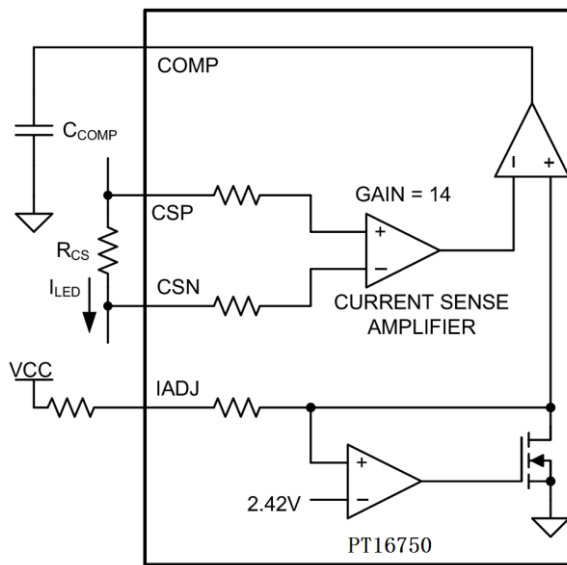
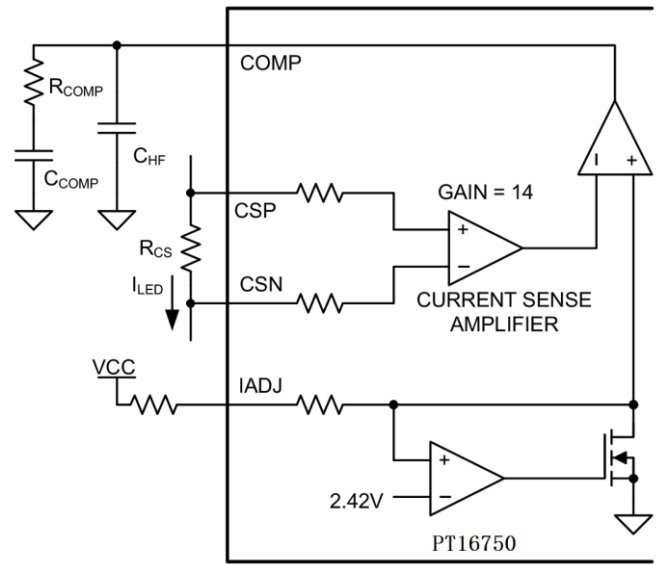

Figure 15. Integral Compensation
Figure 16. Proportional-Integral Compensation
The feedback transfer function includes the current sense resistor and the loop compensation of the transconductance amplifier. A compensation network at the output of the error amplifier is used to configure loop gain and phase characteristics. A simple capacitor, C_{COMP} , from COMP to GND (as shown in Figure 15) provides integral compensation and creates a pole at the origin. Alternatively, a network of R_{COMP} , C_{COMP} , and C_{HF} , shown in Figure 16, can be used to implement proportional and integral (PI) compensation and to create a pole at the origin, a low-frequency zero, and a high-frequency pole.